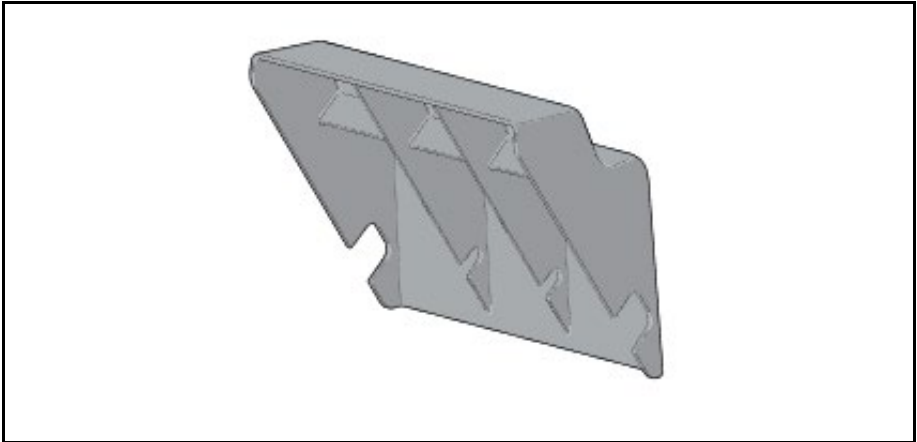

Figure 10 Lid bracket included in box before installation.
Step 1: Identify the bracket and ensure that the double-sided adhesive pad is properly attached to the bracket. The bracket is shown in Figure 10.